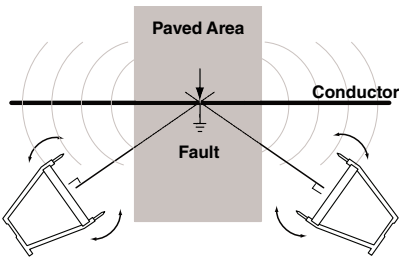

Figure 13 – Locating below paved surfaces
- If the paved area is relatively small, the receiver can be used around the periphery of the area. The receiver can be rotated side to side, and where the receiver directional arrows and beeping toggle back and forth, extend a straight line perpendicular to the center of the A-Frame Receiver. Do this in several locations around the suspected fault area. The straight lines should all intersect at the same point. This is the location of the fault. This method of locating is less exact than placing the receiver directly over the conductor. See *Figure 13*.